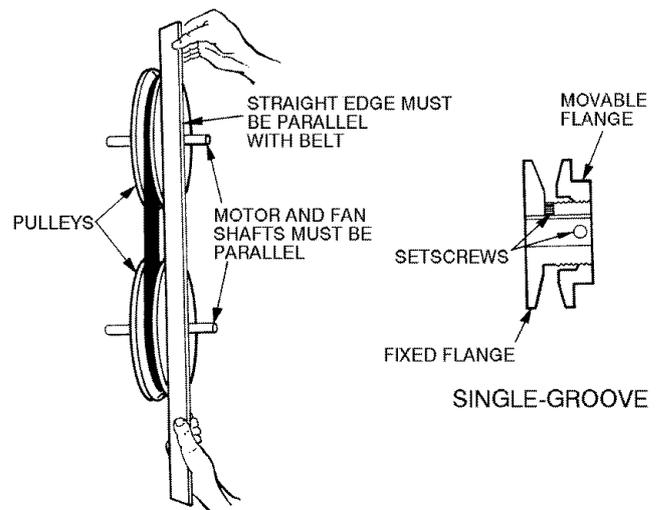

Fig. 46 — Evaporator-Fan Pulley Adjustment
3. Loosen movable pulley flange setscrew (see Fig. 46).